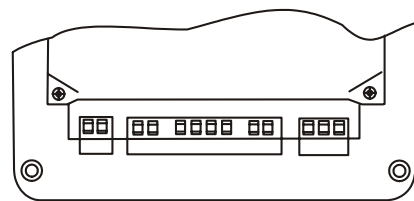

Figure 11 – Plug to socket connections
11. Remove the plugs from the PCB on the front plate - see Figure 11 - Plug to socket connection